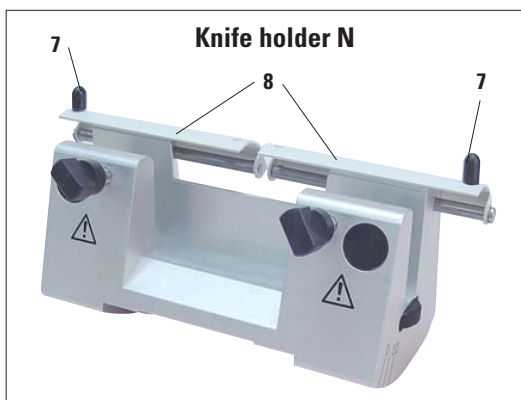

Fig. 3
The knife guard (8) of the knife holder N/NZ can be easily positioned via the two handles (7) (Fig. 3).